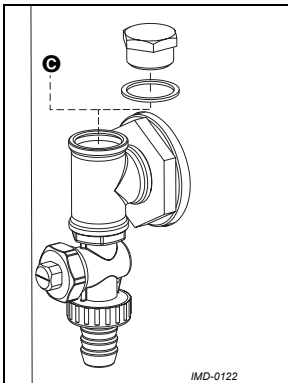

Figure 3.3 Drain valve
1. Fit the standard drain valve ⑦ supplied.
2. Refer to paragraph 3.6.5 if a circulation pipe is to be fitted. Otherwise, fit the sealing nut supplied with the drain valve complete with packing. See Figure 3.3.
See ⑥ in Figure 3.2. and Figure 3.3.
1. Fit a circulation pump ⑥ of a capacity corresponding with the size and resistance of the circulation system.
2. Fit a non-return valve ⑤ after the circulation pump to guarantee the direction of circulation.
3. Fit two stop valves for servicing ④.
4. Connect the circulation pipe to the T piece for the drain valve ⑦. See Figure 3.3.